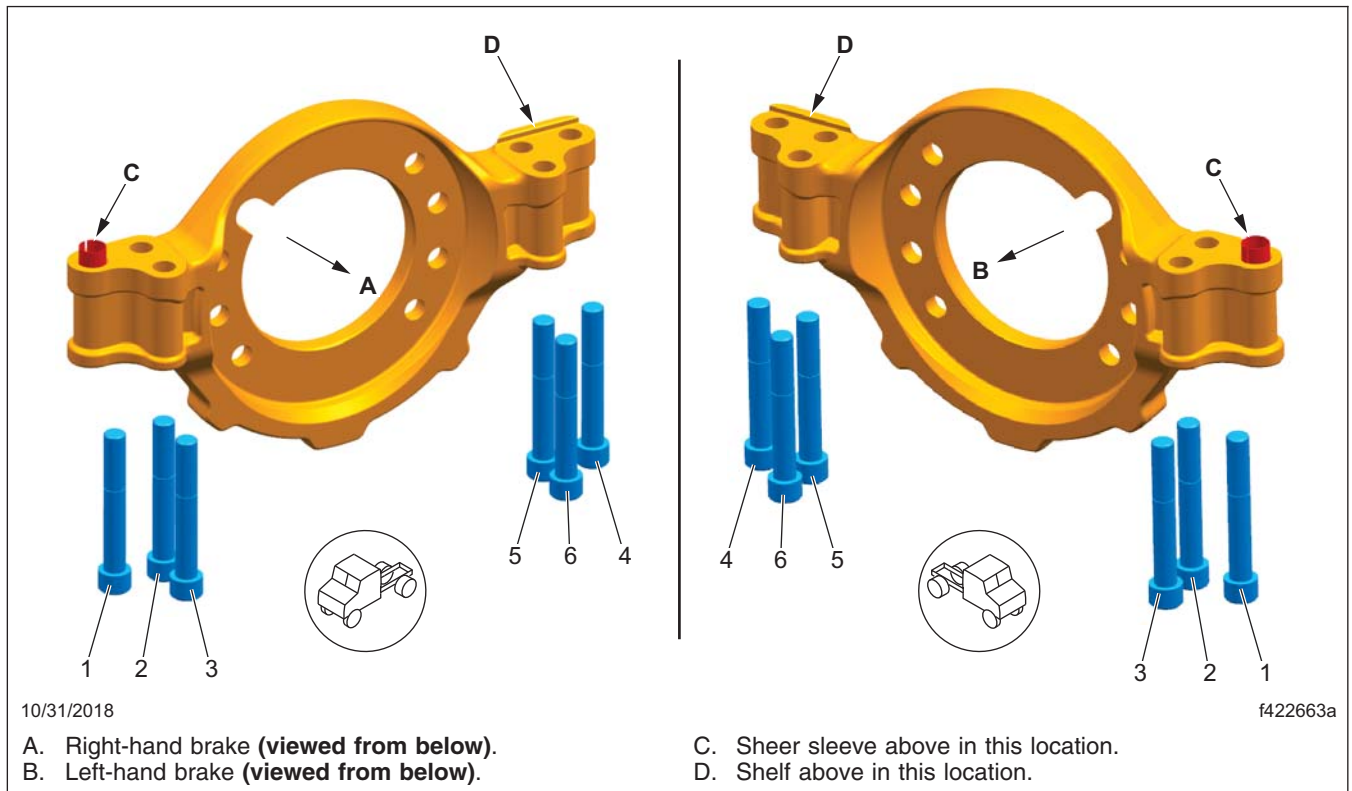

Fig. 6, Bendix Radial Mounted Caliper Tightening Pattern (viewed from below)
4. Set a torque wrench to 200 lbf-ft (271 N·m) and tighten the caliper mounting bolts following the tightening pattern shown in **Fig. 6**. If they do not turn, no further work is needed. If they turn, take the vehicle to an authorized Freightliner dealer to have all of the caliper bolts on that wheel end replaced.